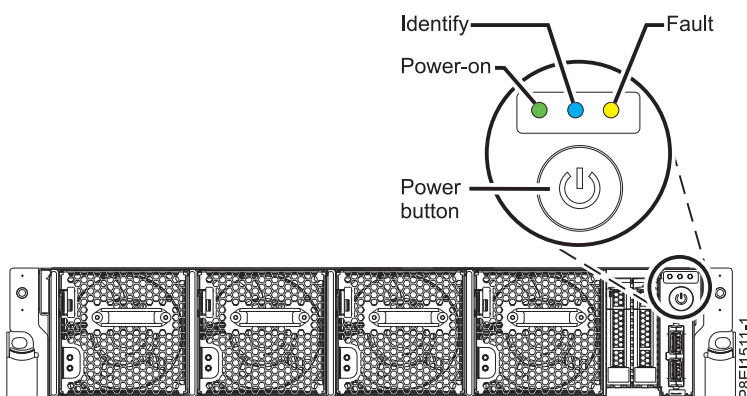

Figure 121. Power button
- The Power-on LED, as shown in Figure 121, is flashing. A flashing light indicates standby power to the unit.
3. Press the power button shown in Figure 121. The power-on light stops flashing and remains on, indicating that the system power is on. The system cooling fans operate at a high speed, and after approximately 30 seconds, return to operating speed.